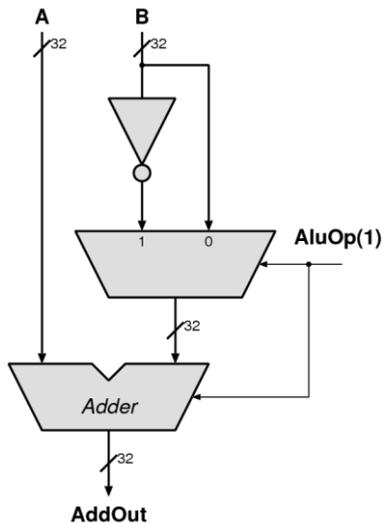

Figure 2. Possible organization for the adder subtracter in ALU
Now we can take a look at the two groups individually. For the logic group AluOp(1:0) selects one of the 4 simple logic operations. In the next group we realize that we have an addition (**add**) or a subtraction (**sub**, **sft**). We again could observe that AluOp(1) is logic-0 for additions and logic-1 for subtractions. This could allow us to build a structure like the one in Figure 5.15 of your textbook to design an adder-subtractor (controlled with AluOp(1) instead of F(2)). Figure 2 shows this arrangement.